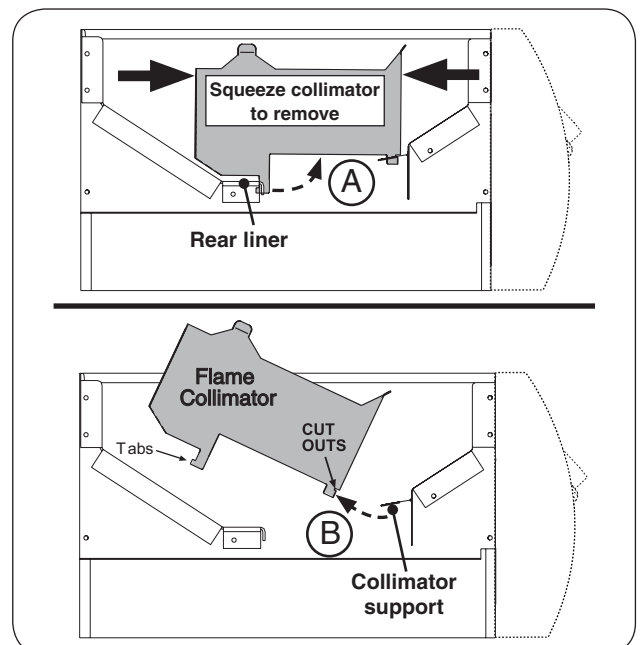

Fig. 46-4 Flame collimator removal
2. Squeeze the collimator to detach the rear tab from the rear liner as shown in Fig. 46-4, A, and lift up the rear portion of the collimator.
3. Detach the collimator from the front collimator support and completely remove the collimator as shown in Fig. 46-4, B.